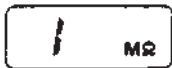

Fig 1
4. The built-in batteries are normal if the INSUL. TEST VOLT ON indicator (red LED) lights up and the LCD looks as shown in Fig. 1.
4. When the measurement object has resistance of more than 200 M Ω at 500 V or 20 M Ω at 15 V, the LCD shows the same over-input display as that displayed when the measuring terminals are open, as shown in Fig. 1 under section [4]4-2, “Checking the Built-in Batteries” on page 5.